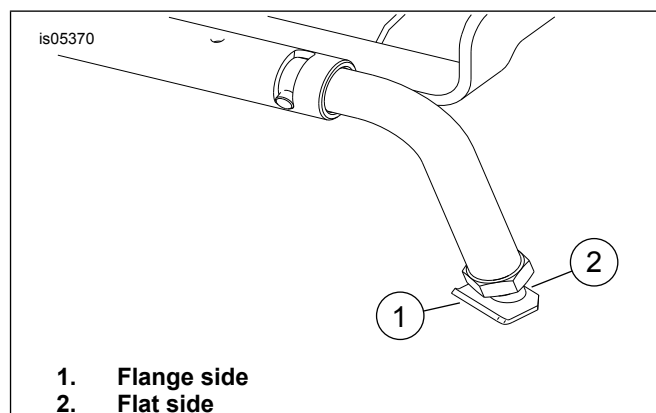

Figure 1. Chrome Display Stand Foot Orientation
5. See Figure 1. Verify that both foot pads and rear wheel are making solid contact with the ground and that the motorcycle is level and stable. Verify that the foot pads are oriented with the flange side (1) facing to the rear and the flat side facing the front (2). If the stand needs adjustment, retract the display stand. Adjust foot pads and then engage the stand again. Repeat this step as necessary.
4. See Figure 1. Verify that the motorcycle is level and stable. Verify that the foot pads are oriented with the flange side (1) facing to the rear and the flat side facing the front (2). If the stand needs adjustment, retract the display stand. Adjust foot pads and then engage the stand again. Repeat this step as necessary.
- b. Loosen the display stand mounting hardware (Figure 1, items 1 and 2). Move the display stand as far forward as possible. Tighten the mounting hardware to specification.